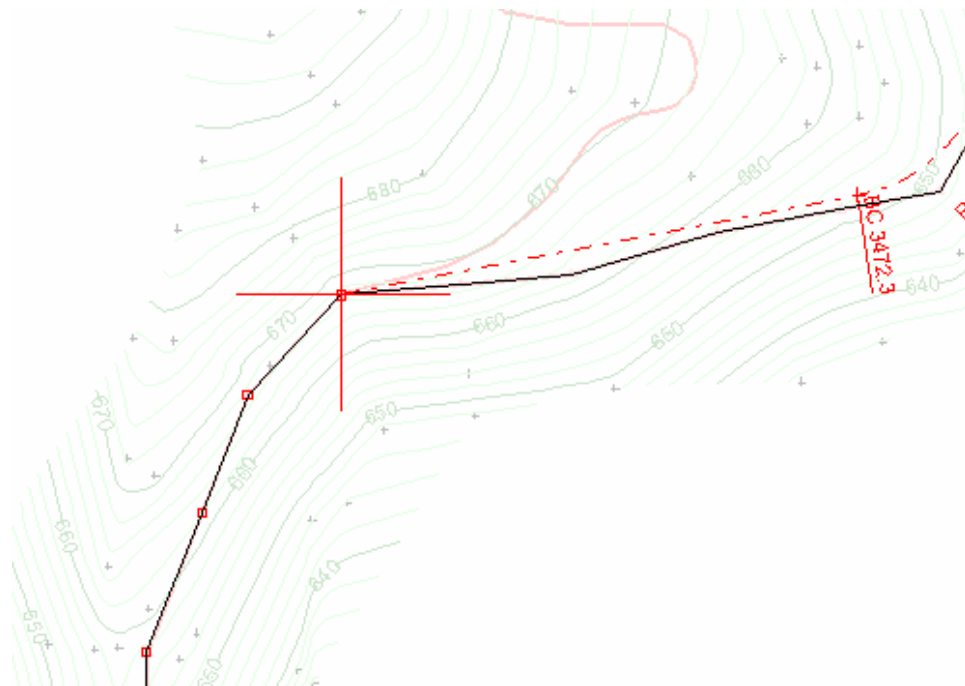

Figure 4.13: Station 3167, Second Curve Location
7. Press the *Previous IP*  button in the horizontal curve panel until you reach station 3167 (see Figure 4.13).